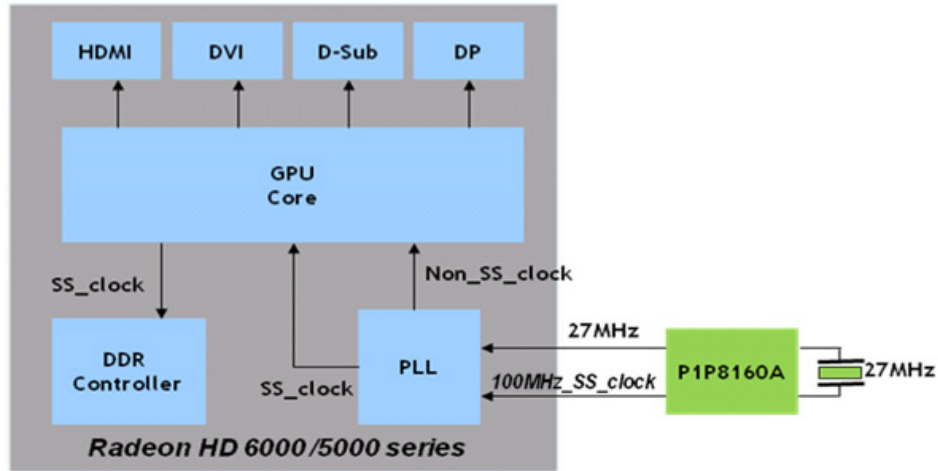

Figure 1. P1P8160A for AMD Graphic Chips Application
P1P8160A uses a 27 MHz fundamental crystal or an external reference clock to generate a 27 MHz (no SS) and a 100 MHz (SS) clock output. As shown in Figure 1, the 100 MHz SS clock will supply the reference clock to the internal GDDR controller.